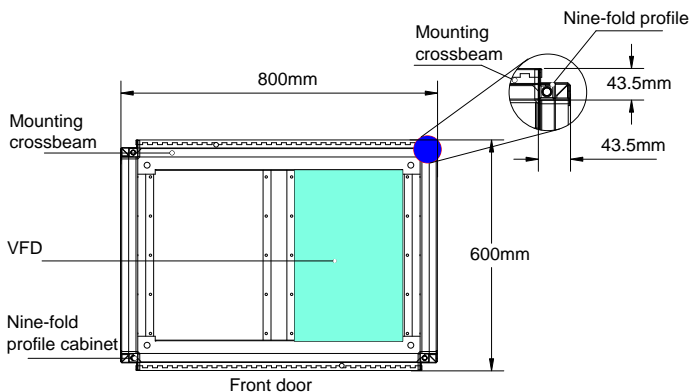

Figure 4-11 Top view of cabinet for VFDs in T11-T12 frames
1	Mount the crossbeam for VFD fixing in the nine-fold profile cabinet. (See Figure 4-11.)
- A. The nine-fold profile cabinet (PS cabinet) is recommended. Figure 4-11 shows the nine-fold profile cross section.